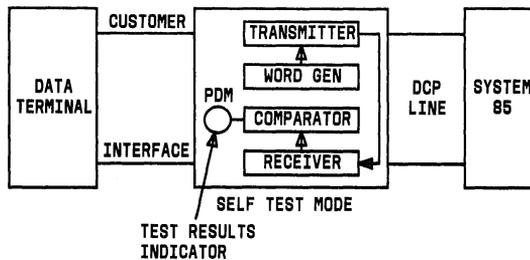

Fig. 9—Self-Test Diagram
3.08 *Caution: Operating the SELF TEST switch (without operating the REMOTE LOOPBACK switch) during a call will cause the call to be disconnected.* This self test (Fig. 9) checks the internal circuits of the PDM module and is activated by operating the SELF TEST switch from its normal OFF position to the SELF TEST position and continues until the switch is moved to the OFF position.